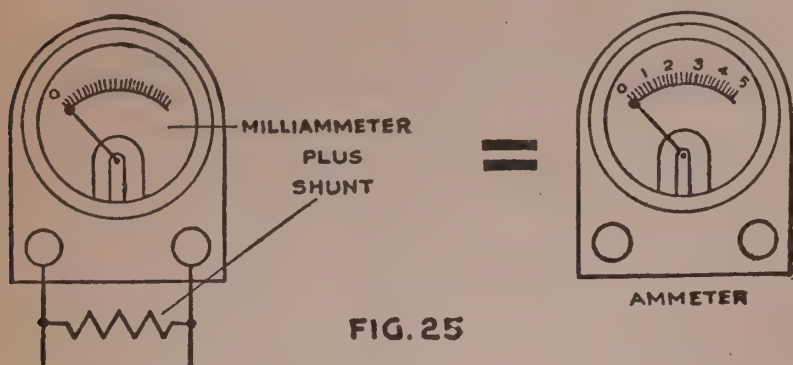

FIG. 25
Because the coil is composed of fine wires which can stand only small quantities of current, the milliammeter must be connected in *series* with the circuit and never *across* it. Figure 25, on the next page, shows the proper method of hooking up the milliammeter. Measurements made with a
**The Ammeter:** By adding a shunt resistance across the terminals of an ordinary milliammeter, as shown in Fig. 25, we can transform it into an ammeter. In the case of regular commercial ammeters, this shunting resistance often is a part of the meter case. Measurements made with an ammeter are called amperes (1,000 milliamperes), the standard unit for current. The ammeter is connected in *series* with a circuit.